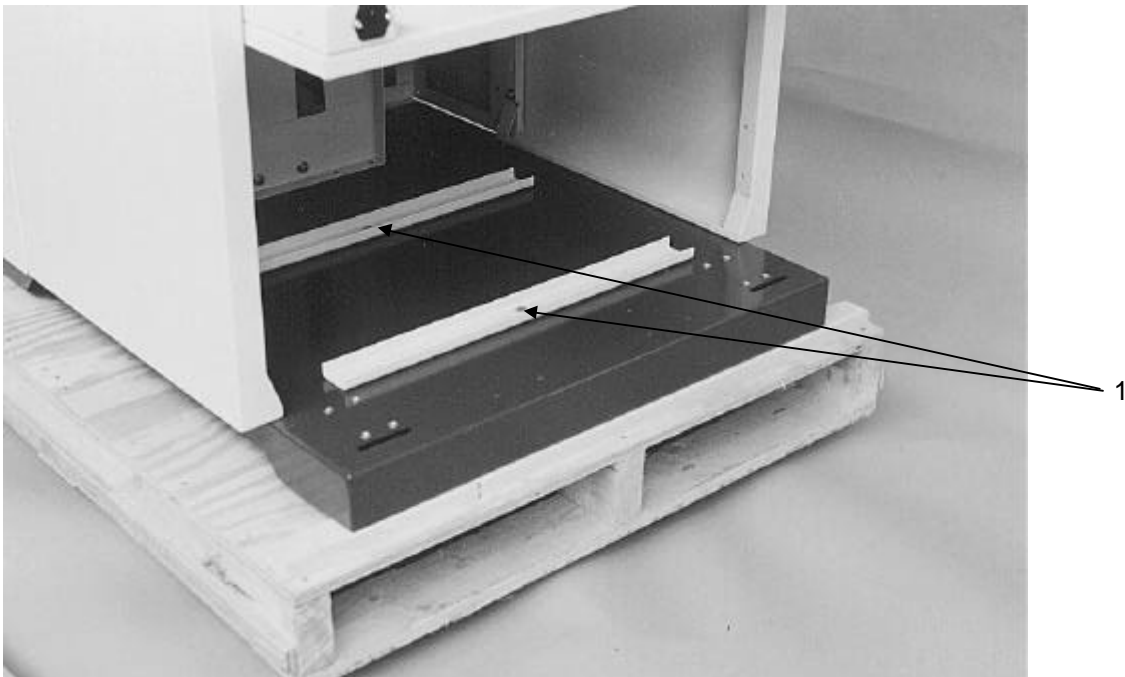

figure 1
- Remove the fastening bolts attaching the machine to the pallet (see figure 1, number 1).